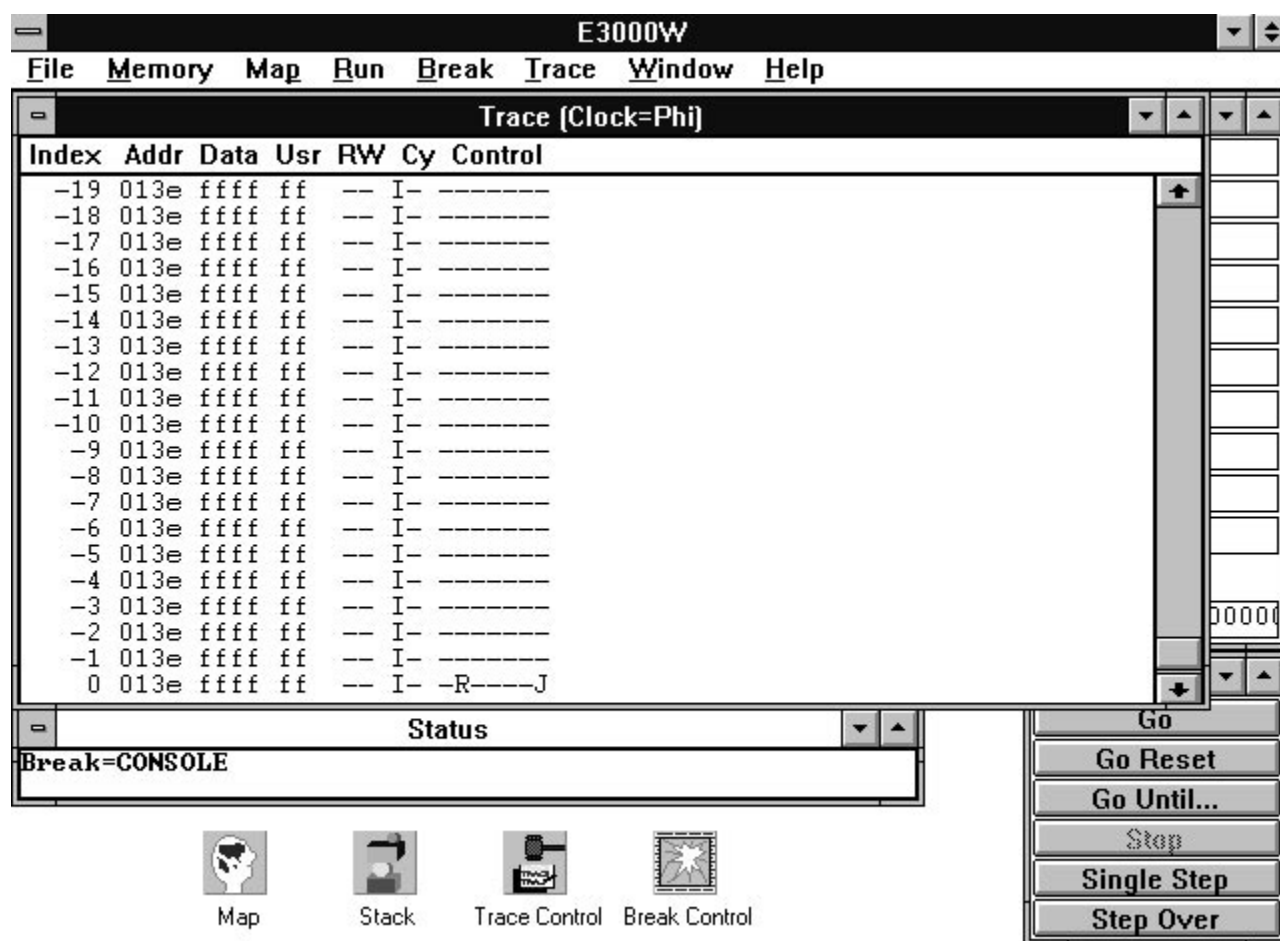

Figure 22.
6. An **access (CY)** column indicating the type of access (internal, external, EEPROM, or no EEPROM).
If the phi trace clock option is used, machine cycles are recorded into the trace buffer memory as well, and the trace display does not contain the symbol and disassembly columns, but a **control** column instead (see Figure 22). This column has 7 entry flags that indicate (from left to right): evaluation chip wait state (W), opcode fetch (R), opcode decode (D), interrupt acknowledge (I), external 3-state access or internal 2-state access (3/2), branch not taken flag (B), and any type of jump taken (J).